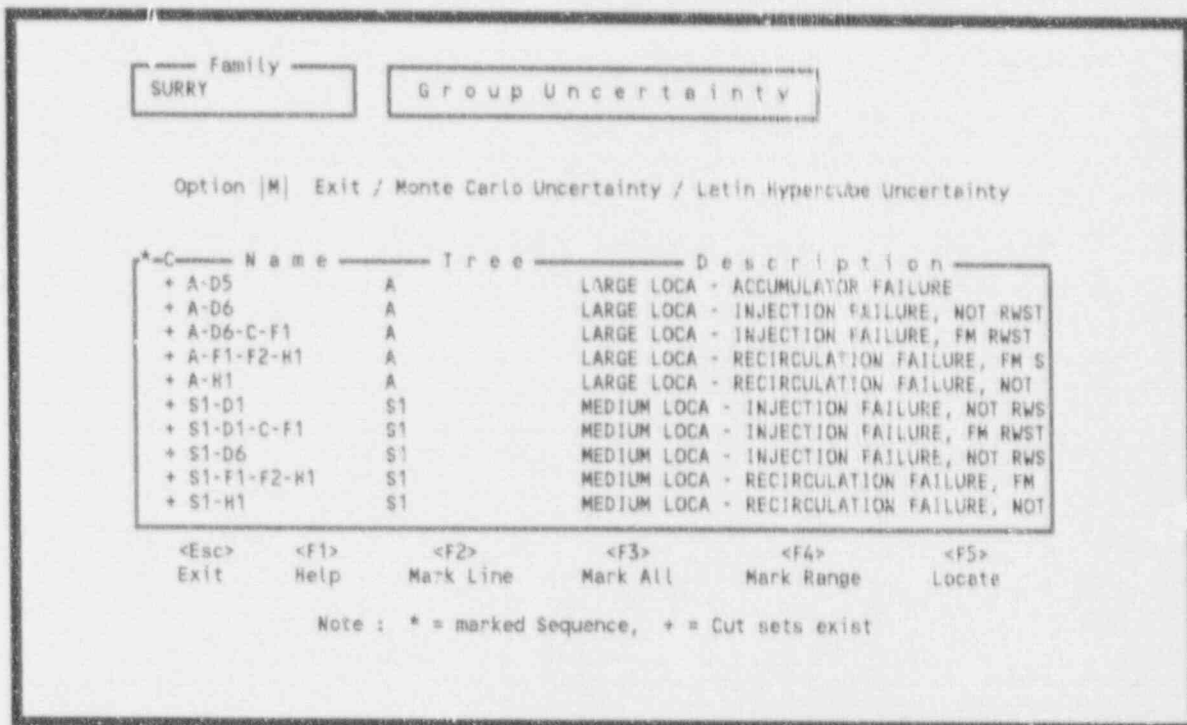

Figure 91. Group uncertainty menu.
**4.3.4.3 Group.** To generate an overall uncertainty analysis for a group of sequences, enter a <G> in the option field. The Group Uncertainty menu will be displayed (Figure 91).